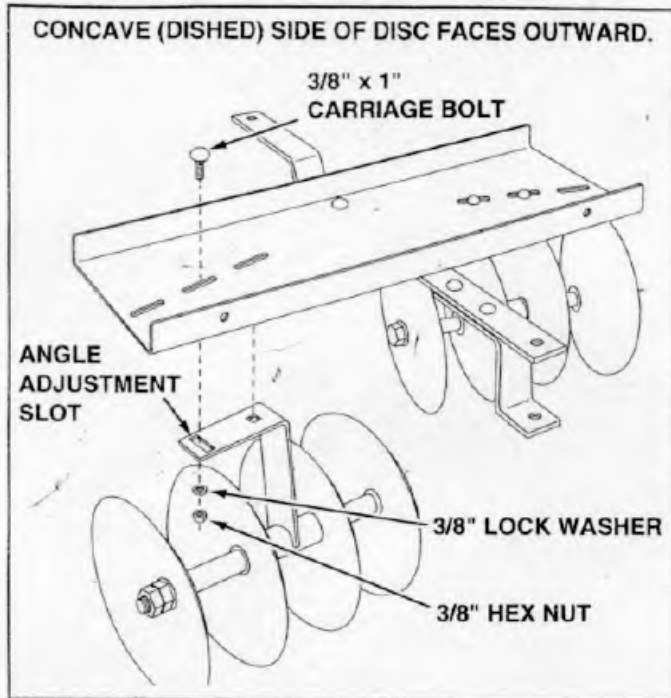

FIGURE 4
5. Assemble the disc assemblies to the tray using four 3/8" x 1" carriage bolts, 3/8" lock washers and 3/8" hex nuts. Swivel the disc assemblies so that the carriage bolt is centered in the angle adjustment slot. **Tighten.** This places the discs at the standard 15 degree angle. See figures 4 and 5.
The front cultivator should be assembled as shown in figure 4. The rear cultivator should be assembled using the following instructions. Note that the position of the tray and drawbar are the reverse of the front cultivator.